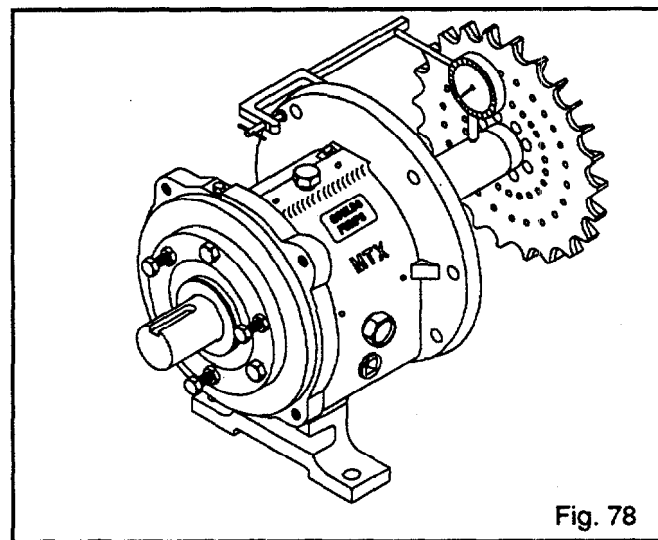

Fig. 78
3. Check shaft/sleeve runout. Put on shaft sleeve (126) if used, and thread on impeller, hand tight. Rotate shaft 360 degrees. If total indicator reading is greater than .002 in., disassemble and determine cause. Remove impeller and shaft sleeve (Fig. 78).